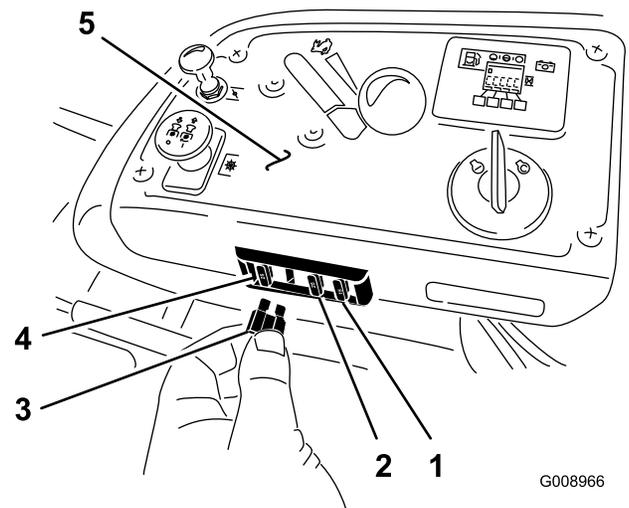

Figure 62
1. The fuses are located on the console to the right of the seat (Figure 62).
3. Install a new fuse (Figure 62).